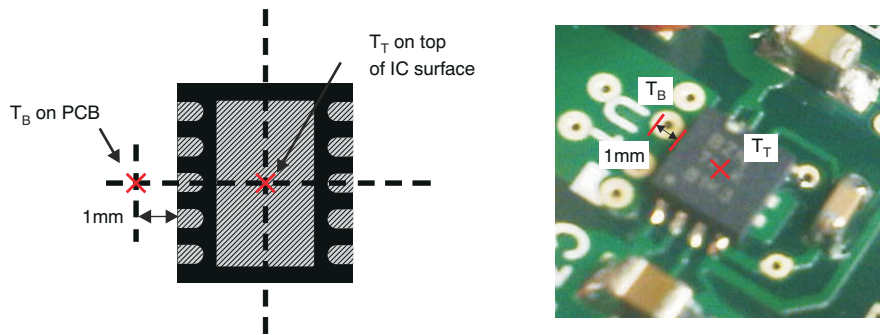

图 8-9. Measuring Points for T_T and T_B
- T_B is the PCB temperature measured 1mm away from the device package *on the PCB surface* (as 图 8-9 shows)